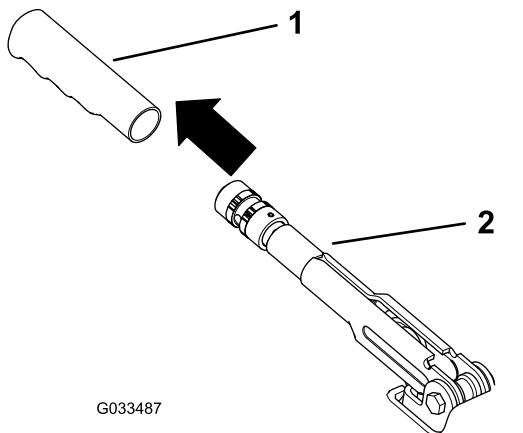

Figure 51
1. Remove the rubber grip from the parking-brake lever (Figure 51).
5. Install the rubber grip onto the parking-brake lever (Figure 51).